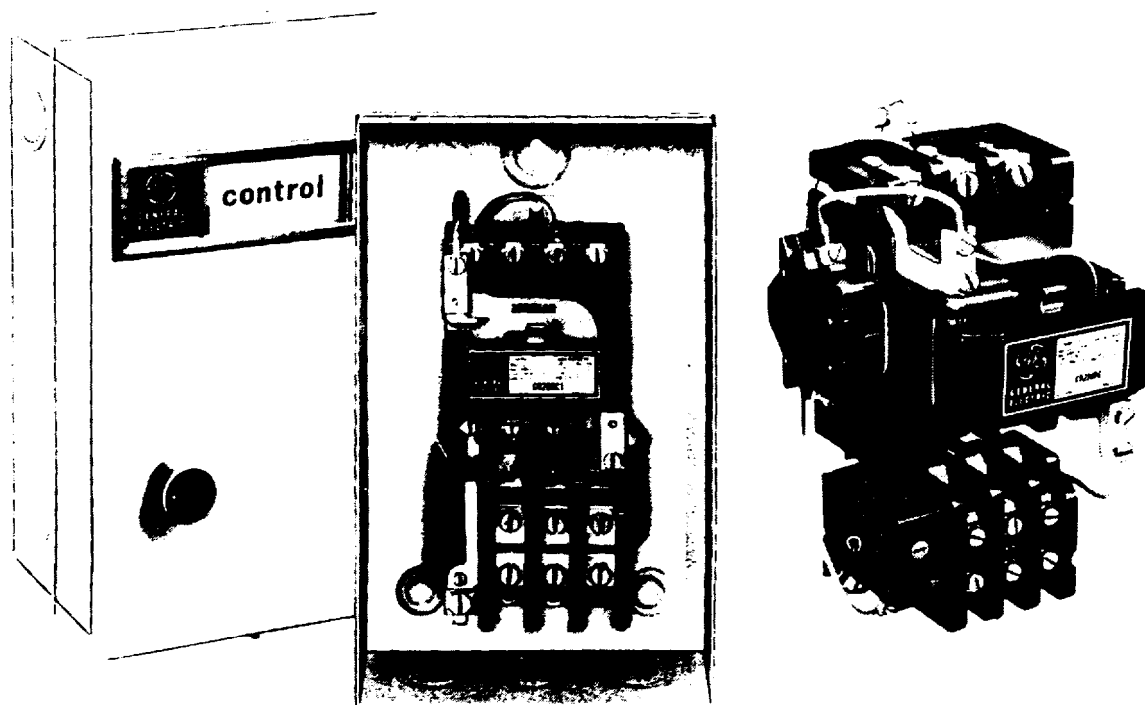

Figure 5-2. Typical magnetic starter
b. *Magnetic across-the-line starters.* Magnetic starters are suitable for application over a wide range of horsepower and voltage for both single and three phase motors. Magnetic starters are full voltage starters designed to provide thermal overload and undervoltage protection for squirrel cage motors and can be operated remotely from push button stations or automatically, for example, through a float switch. They differ from document starters in that they contain a contactor which, when its electromagnetic coil is energized, closes its line contacts to connect the motor directly to the line (fig 5-2). The primary purpose of a motor starter is to provide thermal overload protection, it is not designed to interrupt fault current. A short circuit study must always be performed to determine if protection is necessary from fault currents and, if so, short circuit protection must be provided. A circuit breaker, or fuses, upline of the contactor gives fault current protection to the starter and the motor. Starters must always include thermal overload relays. Ex-